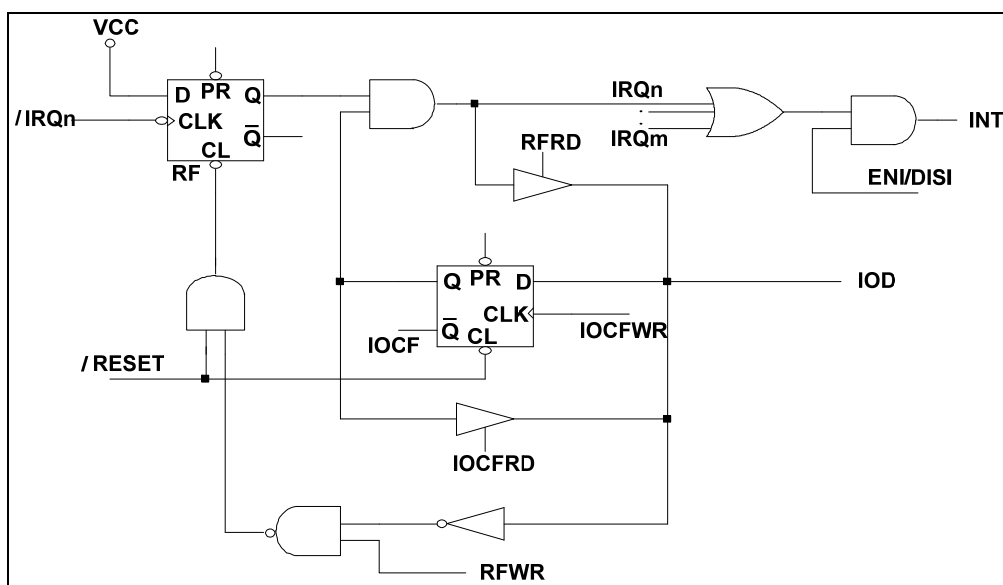

Figure 6-11 Interrupt Input Circuit Diagram
The flag (except ICIF bit) in the Interrupt Status Register (RF) is set regardless of the status of its mask bit or the execution of ENI. Note that the outcome of RF will be the logic AND of RF and IOCF (refer to Figure 6-11 *Interrupt Input Circuit*). The RETI instruction ends the interrupt routine and enables the global interrupt (the execution of ENI).